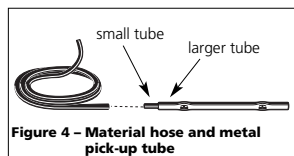

Figure 4 - Material hose and metal pick-up tube
- Make sure the material hose is securely attached to the smaller tube (and does not touch the larger tube) of the metal pick up (Figure 4).